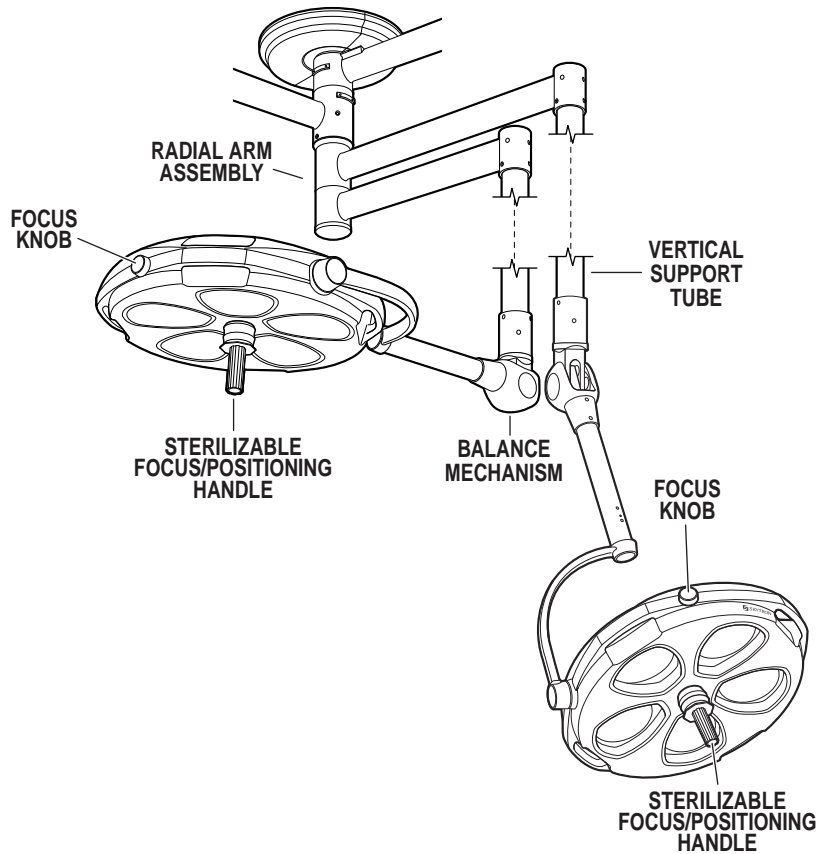

Figure 3. Dual Lighthead Fixture
1. Position the lightheads as required by grasping the lighthead positioning handles and moving the lighthead to the desired position. See figure 3.